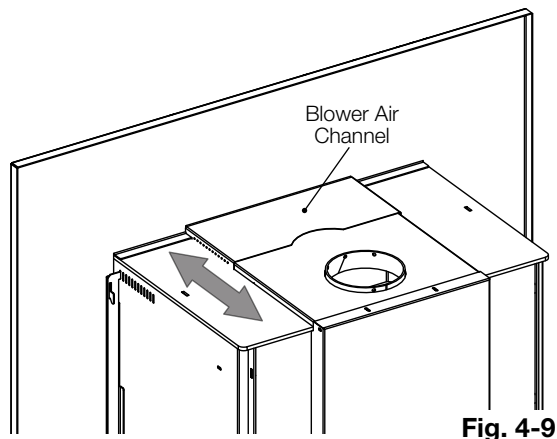

Fig. 4-9
- C. Adjust the blower air channel by sliding it forwards or backwards (Fig. 4-9).